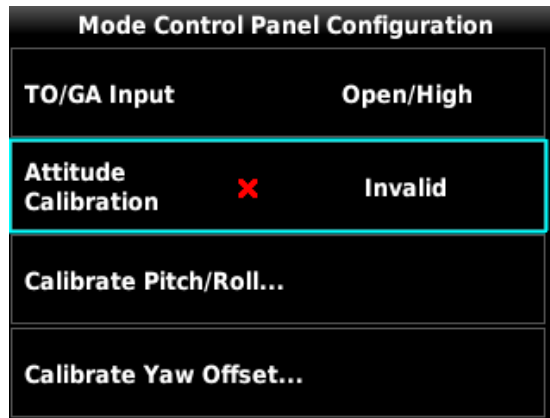

Figure 5-1 – Attitude Calibration Invalid
- d. Verify that there is not a red "X" or "Invalid" shown on the line. Refer to Figure 5-1 below for a representative example.